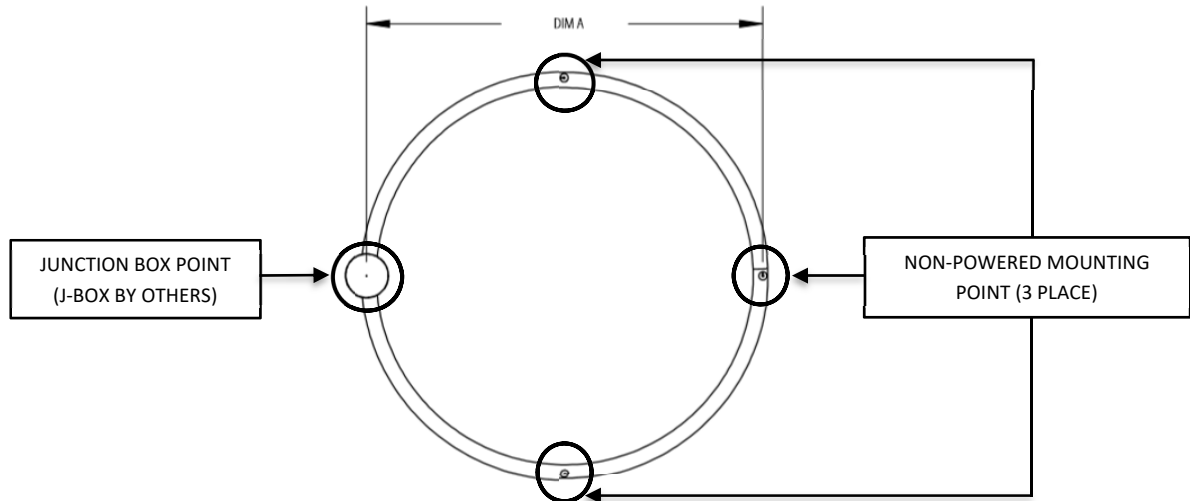

FIG. 17 - TOP VIEW SHOWING MOUNTING VIEW INFORMATION
1. Mark location for the NON-POWERED MOUNTING POINT according to the MOUNTING INFORMATION TABLE and FIG. 17.